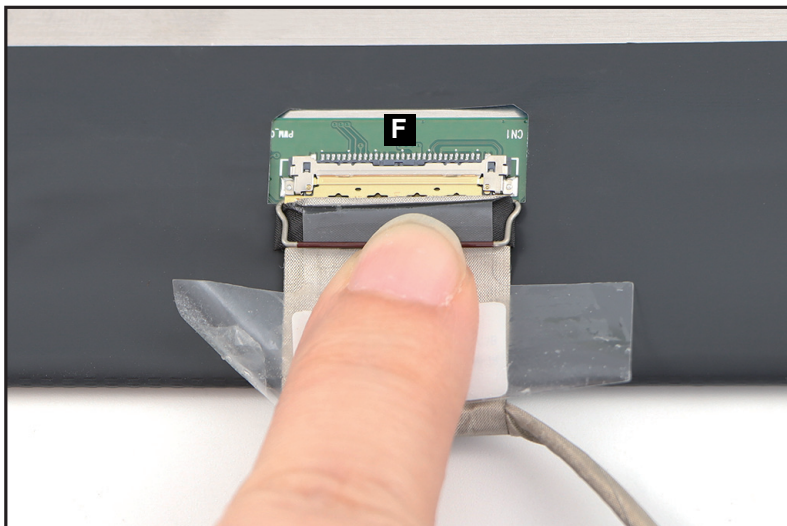

Figure 1-72. LCD Panel Removal
5. Disconnect the LCD cable from the LCD panel connector (F) (Figure 1-72). Then remove the LCD panel.